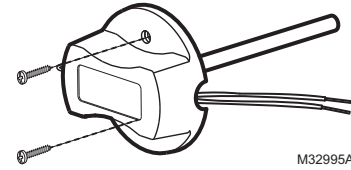

Fig. 80 Mounting Discharge/Return Air Sensor.
2. Drill 1/4-inch hole for the sensor probe and mount it to the ductwork with enclosed screws (see Fig. 80).